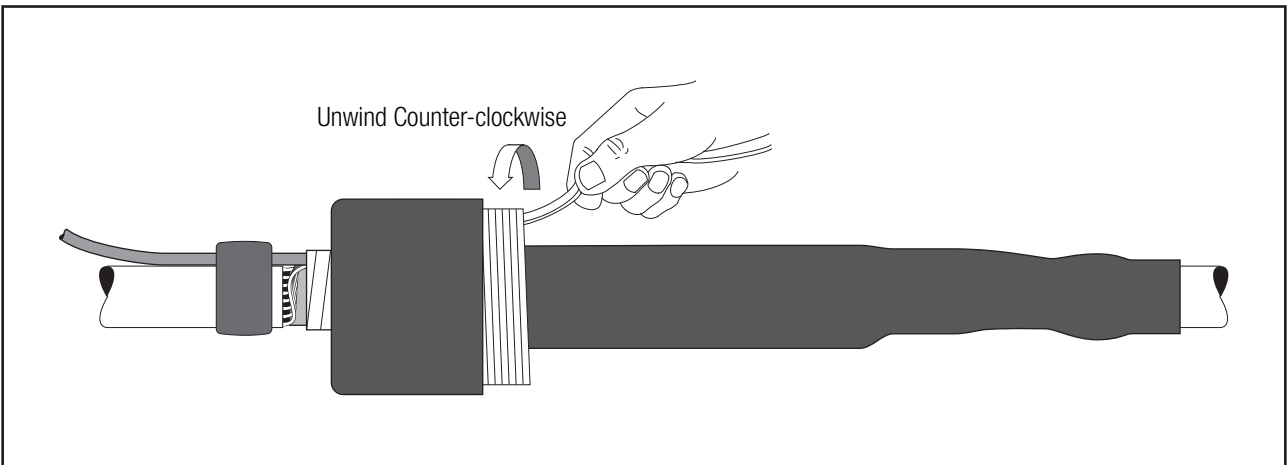

Figure 26
- 7.3 Continue to install the cold shrink tube over the rubber mastic on the other cable by slowly pulling and unwinding the outer core counterclockwise. This portion of the cold shrink tube installs differently than typical cold shrink products in that as the tube shrinks, the end rolls under. The tube may need a slight push to get over the second mastic seal (*Figure 26*).